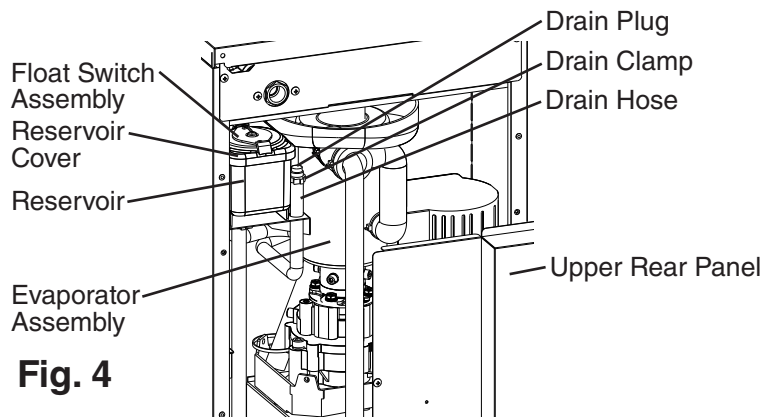

Fig. 4
- 4) Remove the clamp securing the drain plug, then lower the drain hose into a container. Remove the drain plug to drain the water from the evaporator assembly and reservoir. See Fig. 4.
- 2) Remove the upper rear panel. See Fig. 4.